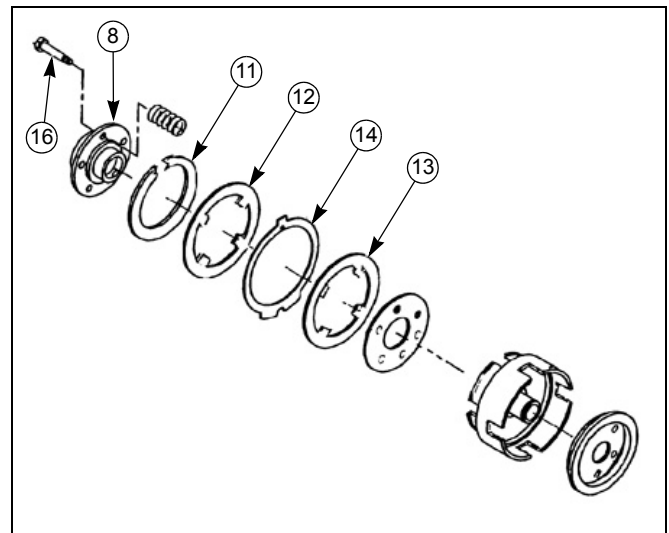

Figure 2-62
4. Press the clutch lifter ⑧, and remove the snap ring ⑪.
NOTE: Never remove the six bolts ⑯ Figure 2-62, because they will be broken by fixed them thread sealant.